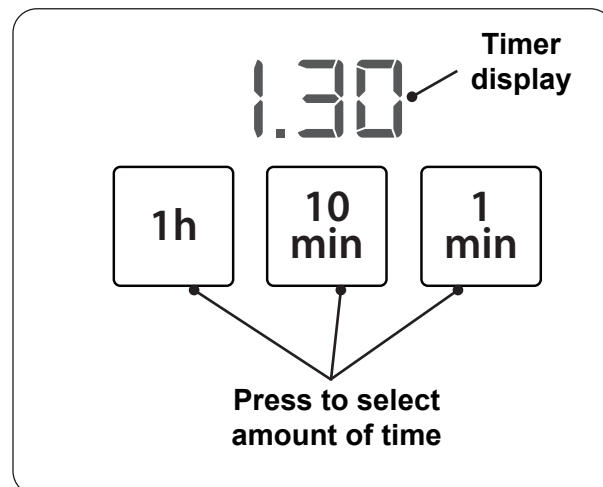

Fig. 32-3 Timer
This unit offers three (3) buttons for timer settings: 1 hour / 10 minutes / 1 minute. Press the necessary buttons to reach the desired time. Once the time is selected, the timer will automatically begin and the display will begin counting down. See Fig. 32-3.